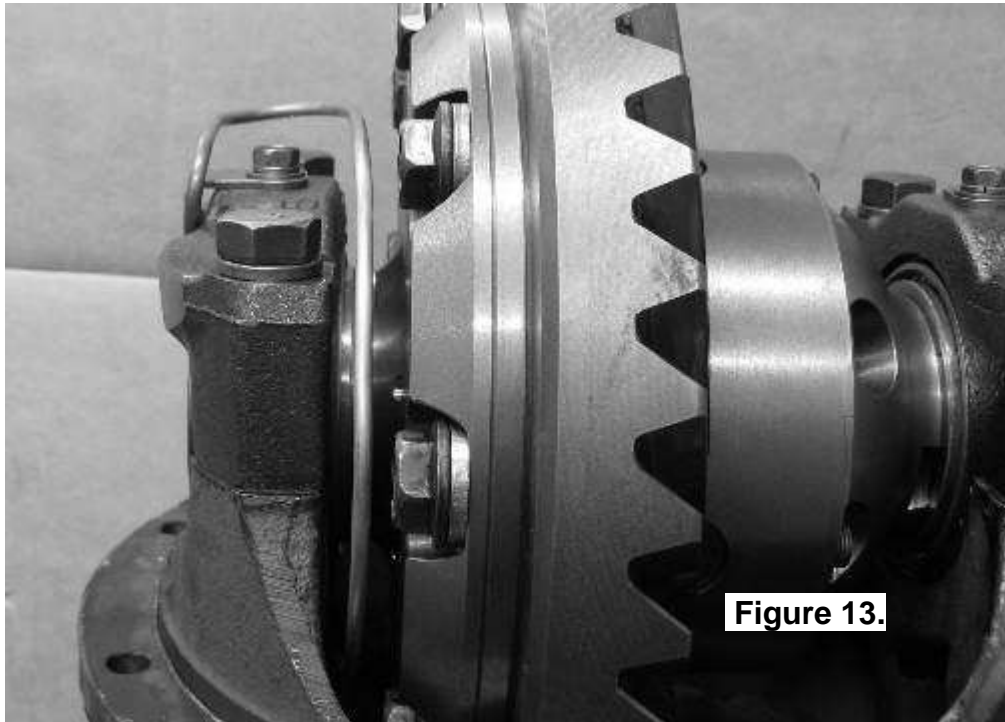

Figure 13.
- ☐ With the seal housing tube now firmly secured into the bulkhead fitting, bend the tube so that it closely follows the profile of the differential. (Figs.13.,14., & 15.)